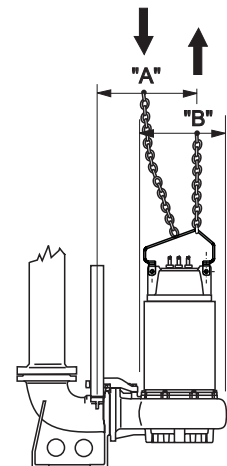

Fig. 2
- 1.5. - To remove the electric pump from its housing, first disconnect the electric cables from the control panel and lift as indicated on page 27 (Fig. 2). Use a jet of clean water outside and inside the electric pump in order to wash off all residuals of the pumped fluid. Always wear accident-preventing goggles, rubber gauntlets, mask and a waterproof apron when carrying out these operations.